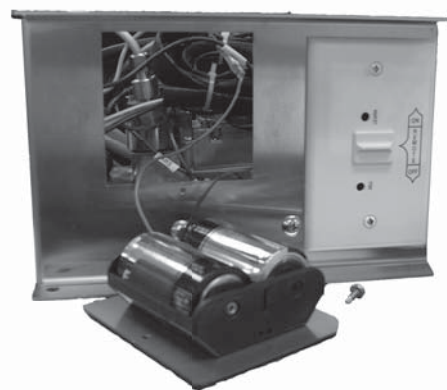

Fig. 11-1
To access the "D" battery pack, unscrew the access plate on the left side of the control panel. Only unscrew the large retaining screw. Grip the top half of the access plate and pull it out to expose the "D" battery pack (Fig. 11-1). Replace the old batteries with two (2) new "D" batteries. Return the access plate into the control panel. Screw in the large retaining screw.